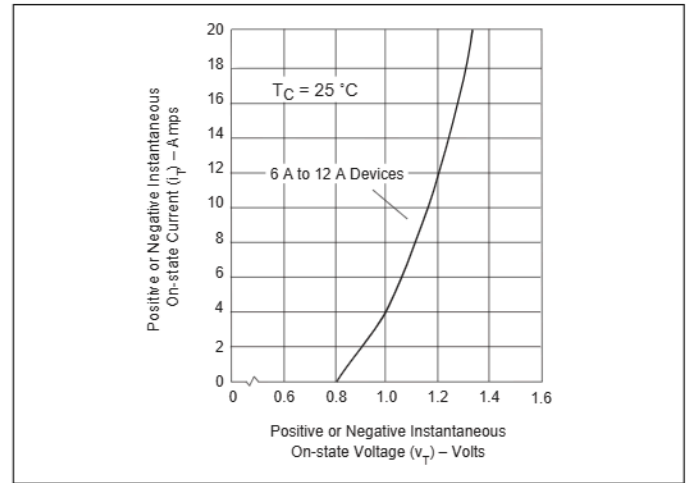
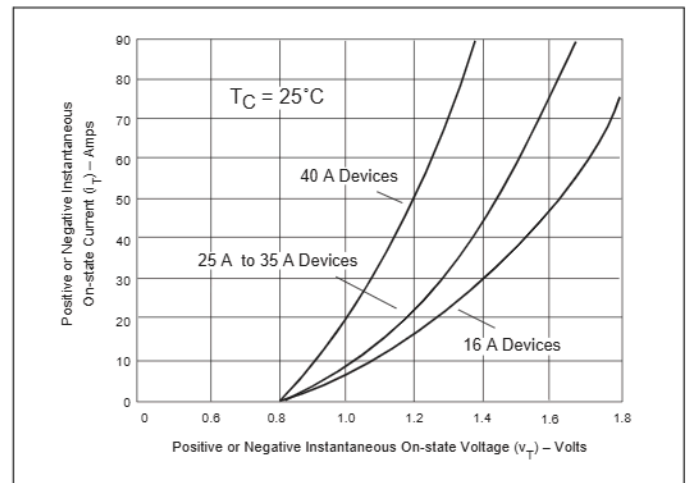

Figure E4.5 On-state Current versus On-state Voltage (Typical) (6 A to 12 A)
Figure E4.6 On-state Current versus On-state Voltage (Typical) (16 A to 40 A)
- See Figure E4.5 and Figure E4.6 for i_T and v_T .